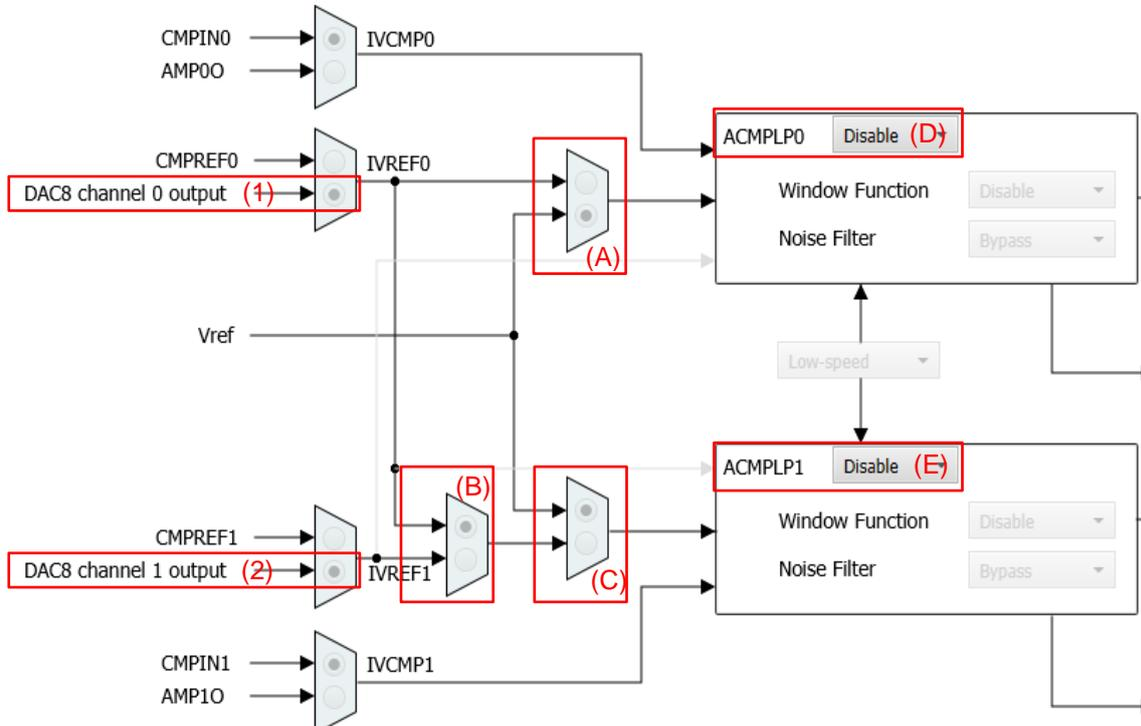

Figure 3-5 ACMLP1 example setting
- “DAC8 channel 0 output” is selected as ACMLP0 input (refer to figure3-5 (1))
- When switcher (A) selects Vref (refer to figure3-5 (A))
- When ACMLP0 is disabled (refer to figure3-5 (D))
- When switcher (B) selects IVREF0, switcher (C) selects Vref (refer to figure3-5 (B) and (C)) and ACMLP1 is enabled (figure3-5 (E) selects “Enable”)
- "DAC8 channel 1 output" is selected as ACMPPL1 input (refer to figure3-5 (2))
- When switcher (B) selects IVREF0 (refer to figure3-5 (B))
- When switcher (C) selects Vref (refer to figure3-5 (C))
- When ACMPPL1 is disabled (refer to figure3-5 (E))